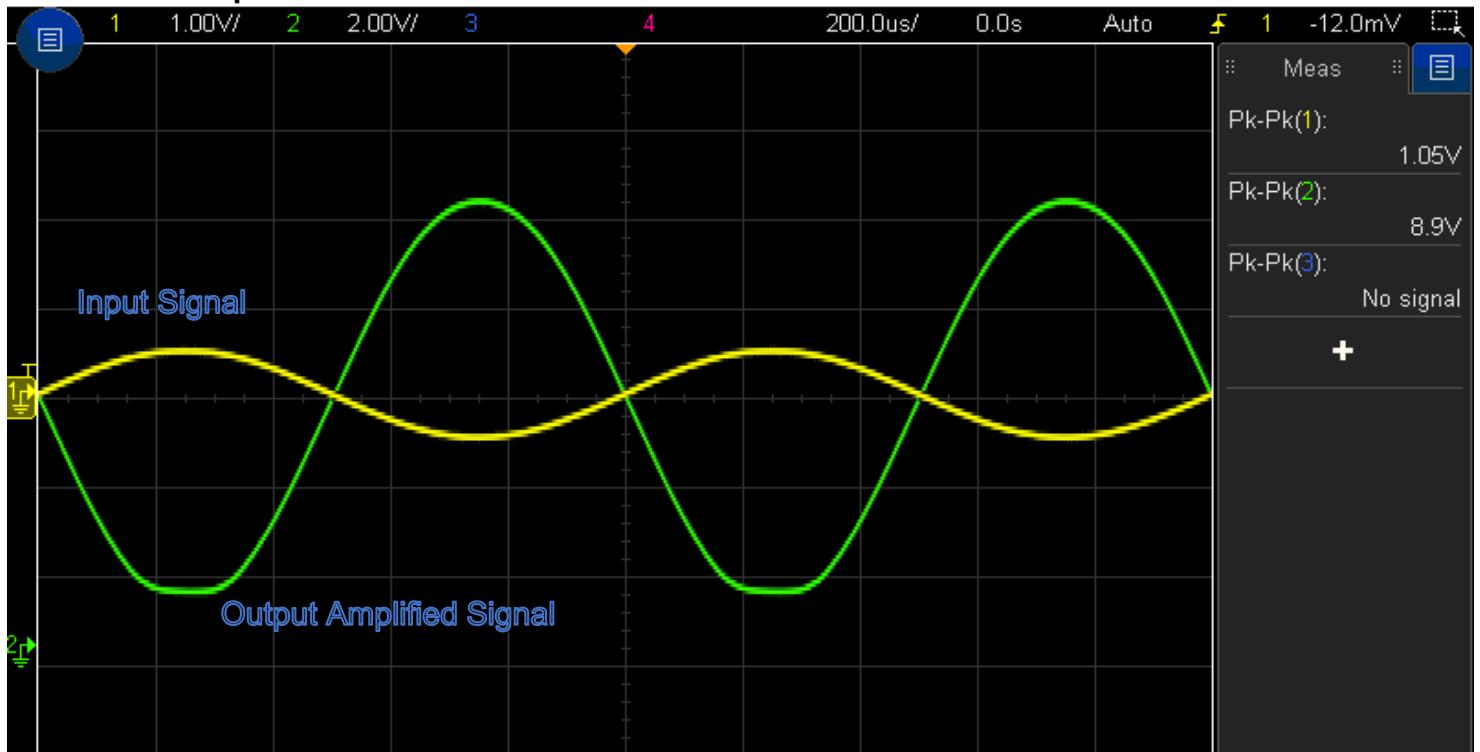
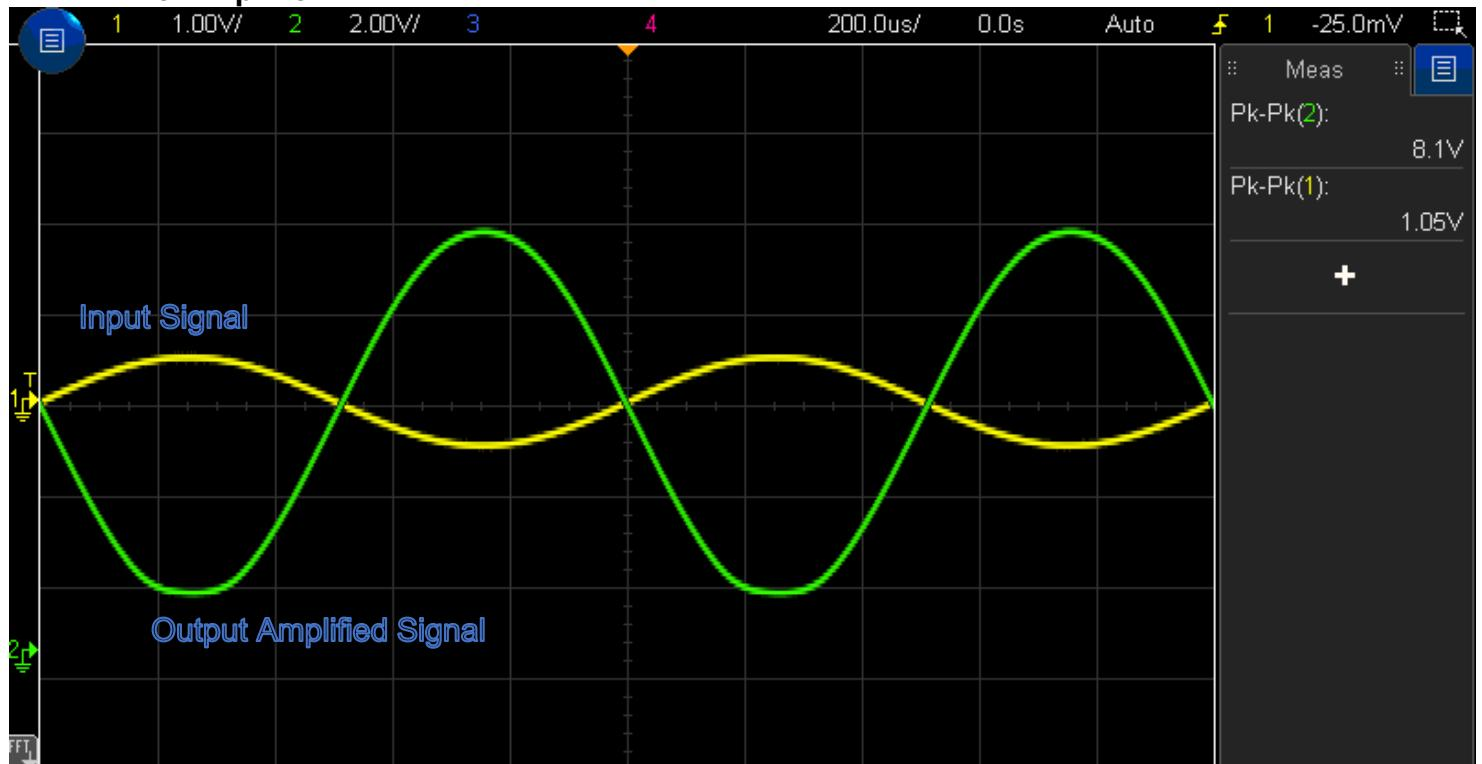

Fig. 3 – Output for Pre-Amplifier Stage
Fig. 6 – Output for Pre-Amplifier Stage
- **1\*** - Please refer to **Fig. 3 & Fig. 6** to see amplified results for different headphone impedances.
The first stage of the design consists of a preamplifier design. This is essentially a Class A audio amplifier which is implemented in order to boost the voltage of the 1 V pk-pk signal that the subsystem receives as input. A major design consideration that has been made here revolves around amplifying voltage to the adequate level while maintaining low noise in the signal. The design consists of two biasing resistors followed by a NPN transistor. This part of the design is powered by a +13V DC power rail. The output for the Pre-Amplifier stage can be seen in **Fig. 3** which shows a 1 V pk-pk signal being amplified to the required voltage. This is also consistent with the simulation results that I have for the preamplifier stage.
Currently the design supports all headphone impedances and to show this I have tested it with the  $16\Omega$  and  $600\Omega$  impedances. The design also has low noise and this is shown in **Fig. 5** by FFT analysis where there is only one major peak which shows there is little distortion. Results shown in **Fig. 6**, **Fig. 7** and **Fig. 8** demonstrate working at different headphone impedance from the ones shown previously.